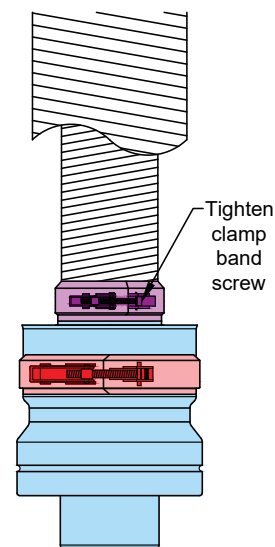

Figure 4-6: Fitting clamp band to secure inner flue liner to adaptor
- Close the toggle clip of this clamp band ensuring that the sloping top edge of the clamp band grips into the corrugations of the inner liner and tighten the clamp band screw using a 3mm Allen key to firmly secure the inner liner to the adaptor. Refer to Figure 4-6.